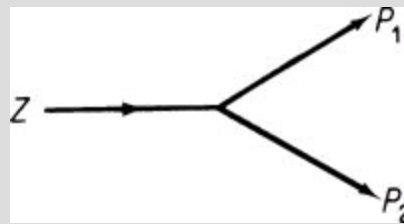

Figure E12.1a
a. Stream splitter (Figure E12.1a): We assume that $Q = W = 0$, and that the energy balance is not involved in the process. By implication of a splitter, the temperatures, pressures, and compositions of the inlet and outlet streams are identical. The count of the total number of variables, total number of constraints, and degrees of freedom is as follows: